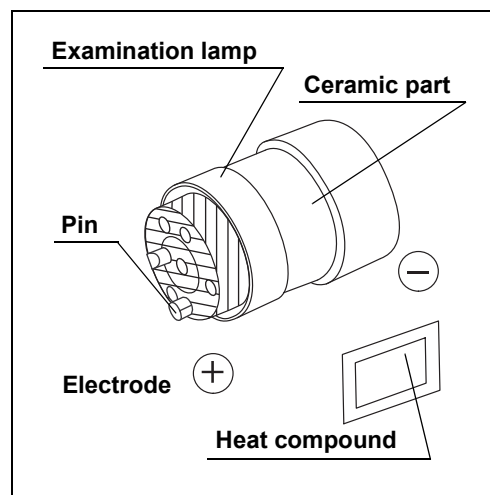

Figure 6.7
- 2 Using your finger, apply the heat compound, provided with the new examination lamp thickly and evenly on the “+” side electrode of the examination lamp (see the shaded sections in Figure 6.7).
- 3 Insert the “+” side electrode of the examination lamp (see Figure 6.7) into heat sink (B) and tighten the three bolts firmly with the hexagon wrench.
- 5 Insert the “–” side electrode of the examination lamp (see Figure 6.7) into heat sink (A) until it stops.
- 6** Place heat sink (A) and heat sink (B) so that their undersides are flat and close the heat sink clamp firmly.